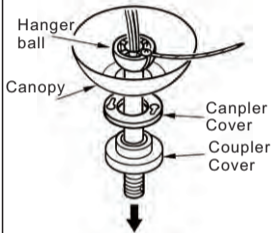

Fig.9
Step 2: Route wires through canopy cover, canopy and hanger ball. (fig. 9)